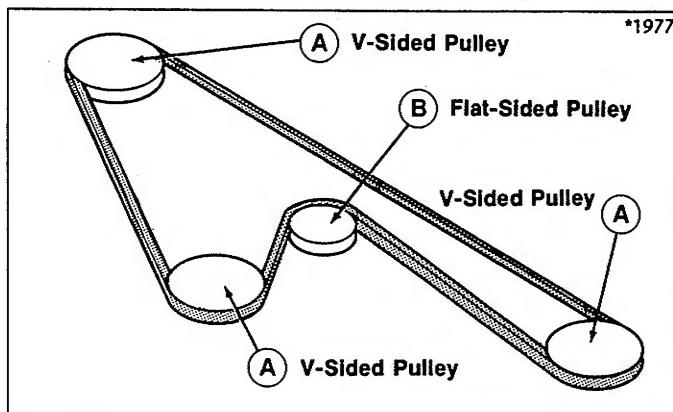

Figure 30.
- A. Self-Tapping Screw (RH)
- F. Self-Tapping Screw (LH)
6. Replace old belt with new belt as shown in figure 30. Make sure that V-side of belt runs in arbor pulley grooves and flat side of belt runs against idler pulley.